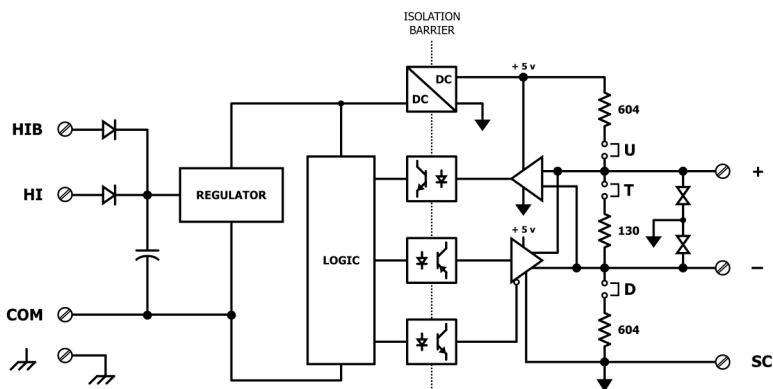

Figure 11 — Isolated EIA-485 Transceiver Circuitry
In *Figure 11* a simplified schematic of the isolated EIA-485 transceiver is shown. Notice that the transceiver common (SC) is electrically isolated from the router power supply common (COM) through the use of opto-isolators and an isolated DC-DC converter. By providing an isolated EIA-485 transceiver there is less opportunity to damage the transceiver by subjecting it to high common-mode voltages, but there is still a risk. Surge suppression is applied between the two differential inputs and between each input and ground. Since the transceiver is electrically isolated, the transceiver's circuit common must be brought out for connection to the other devices on the MS/TP network. This is accomplished by pin SC. The differential pair is labelled + and - and corresponds to the same designations in the BACnet MS/TP standard. This requires a three-wire connection to the MS/TP network. When connecting other isolated MS/TP devices there is no problem since each device requires a 3-wire connection. Just make corresponding connections. For non-isolated MS/TP devices, usually only a 2-wire connection is provided. The third wire is the power supply common. In this situation, the SC connection must be made to the power supply common of the non-isolated device. Refer to the device vendor's instructions for connecting such a device.